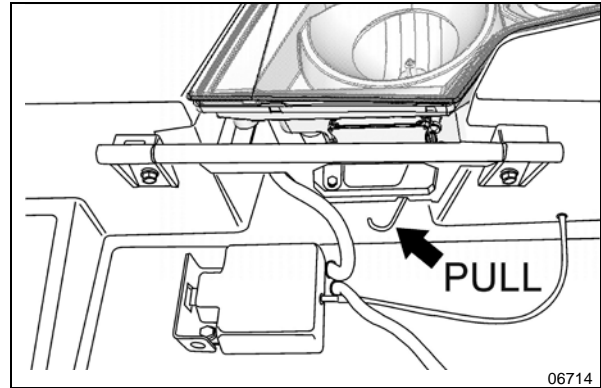

FIGURE 74: ROCKING THE HEADLAMPS ASSEMBLY
3. Pull on the rod shown on **FIGURE 74** to pivot the headlamps assembly.